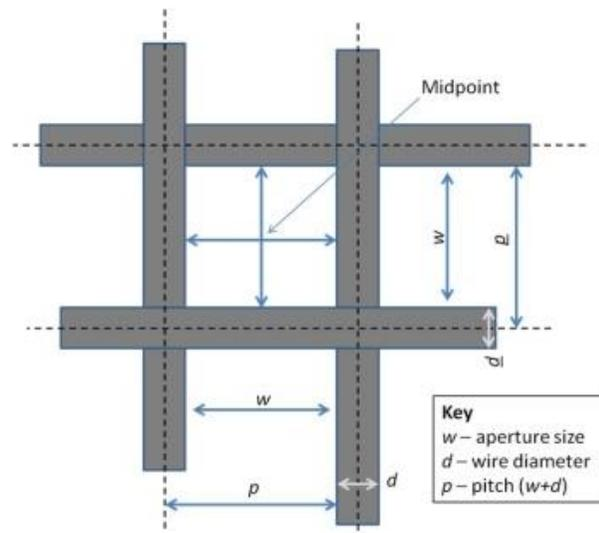

Figure 1
*aperture size*– the dimension defining an opening in a screening surface (Figure 1).